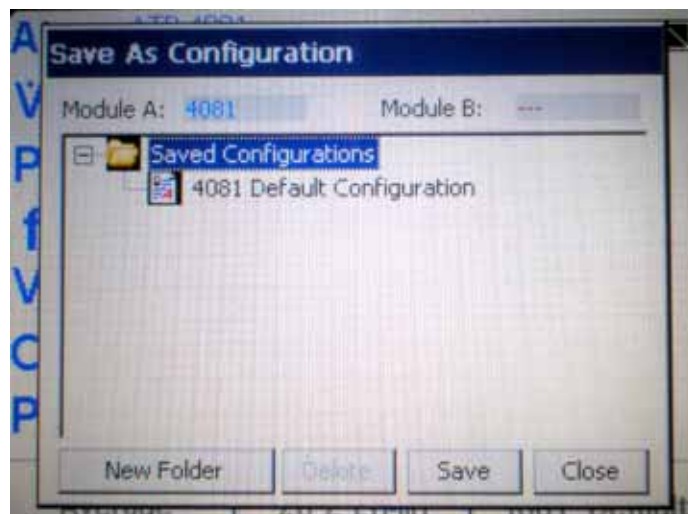

Figure 8-8: Save As Configuration Screen
3. Touch the New Folder tab (refer to Figure 8-8).